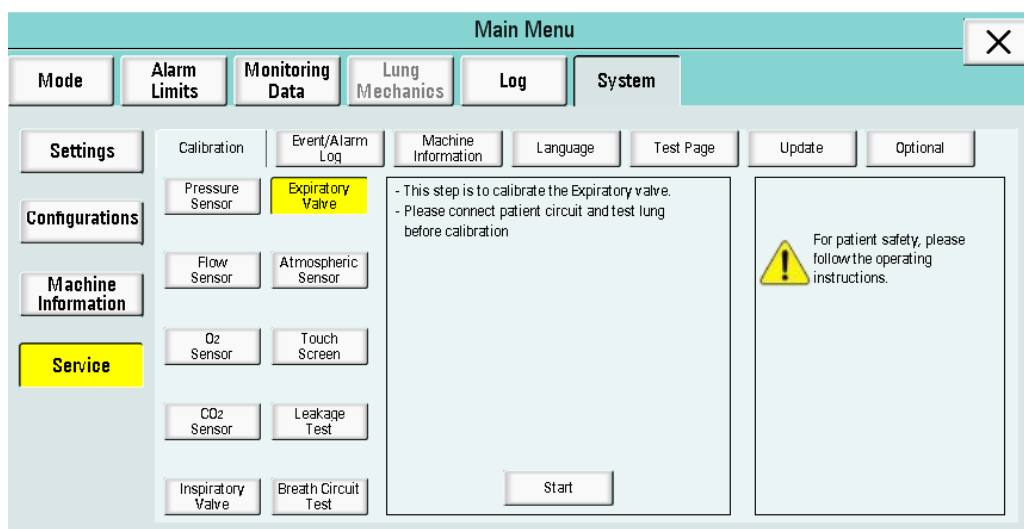

Figure 6-67
(6) Expiratory Valve Calibration: Click “Expiratory Valve” to enter the interface. A message displayed: “This step is to calibrate the expiratory valve. Please connect patient circuit and test lung before calibration”, as shown in Figure 6-67.